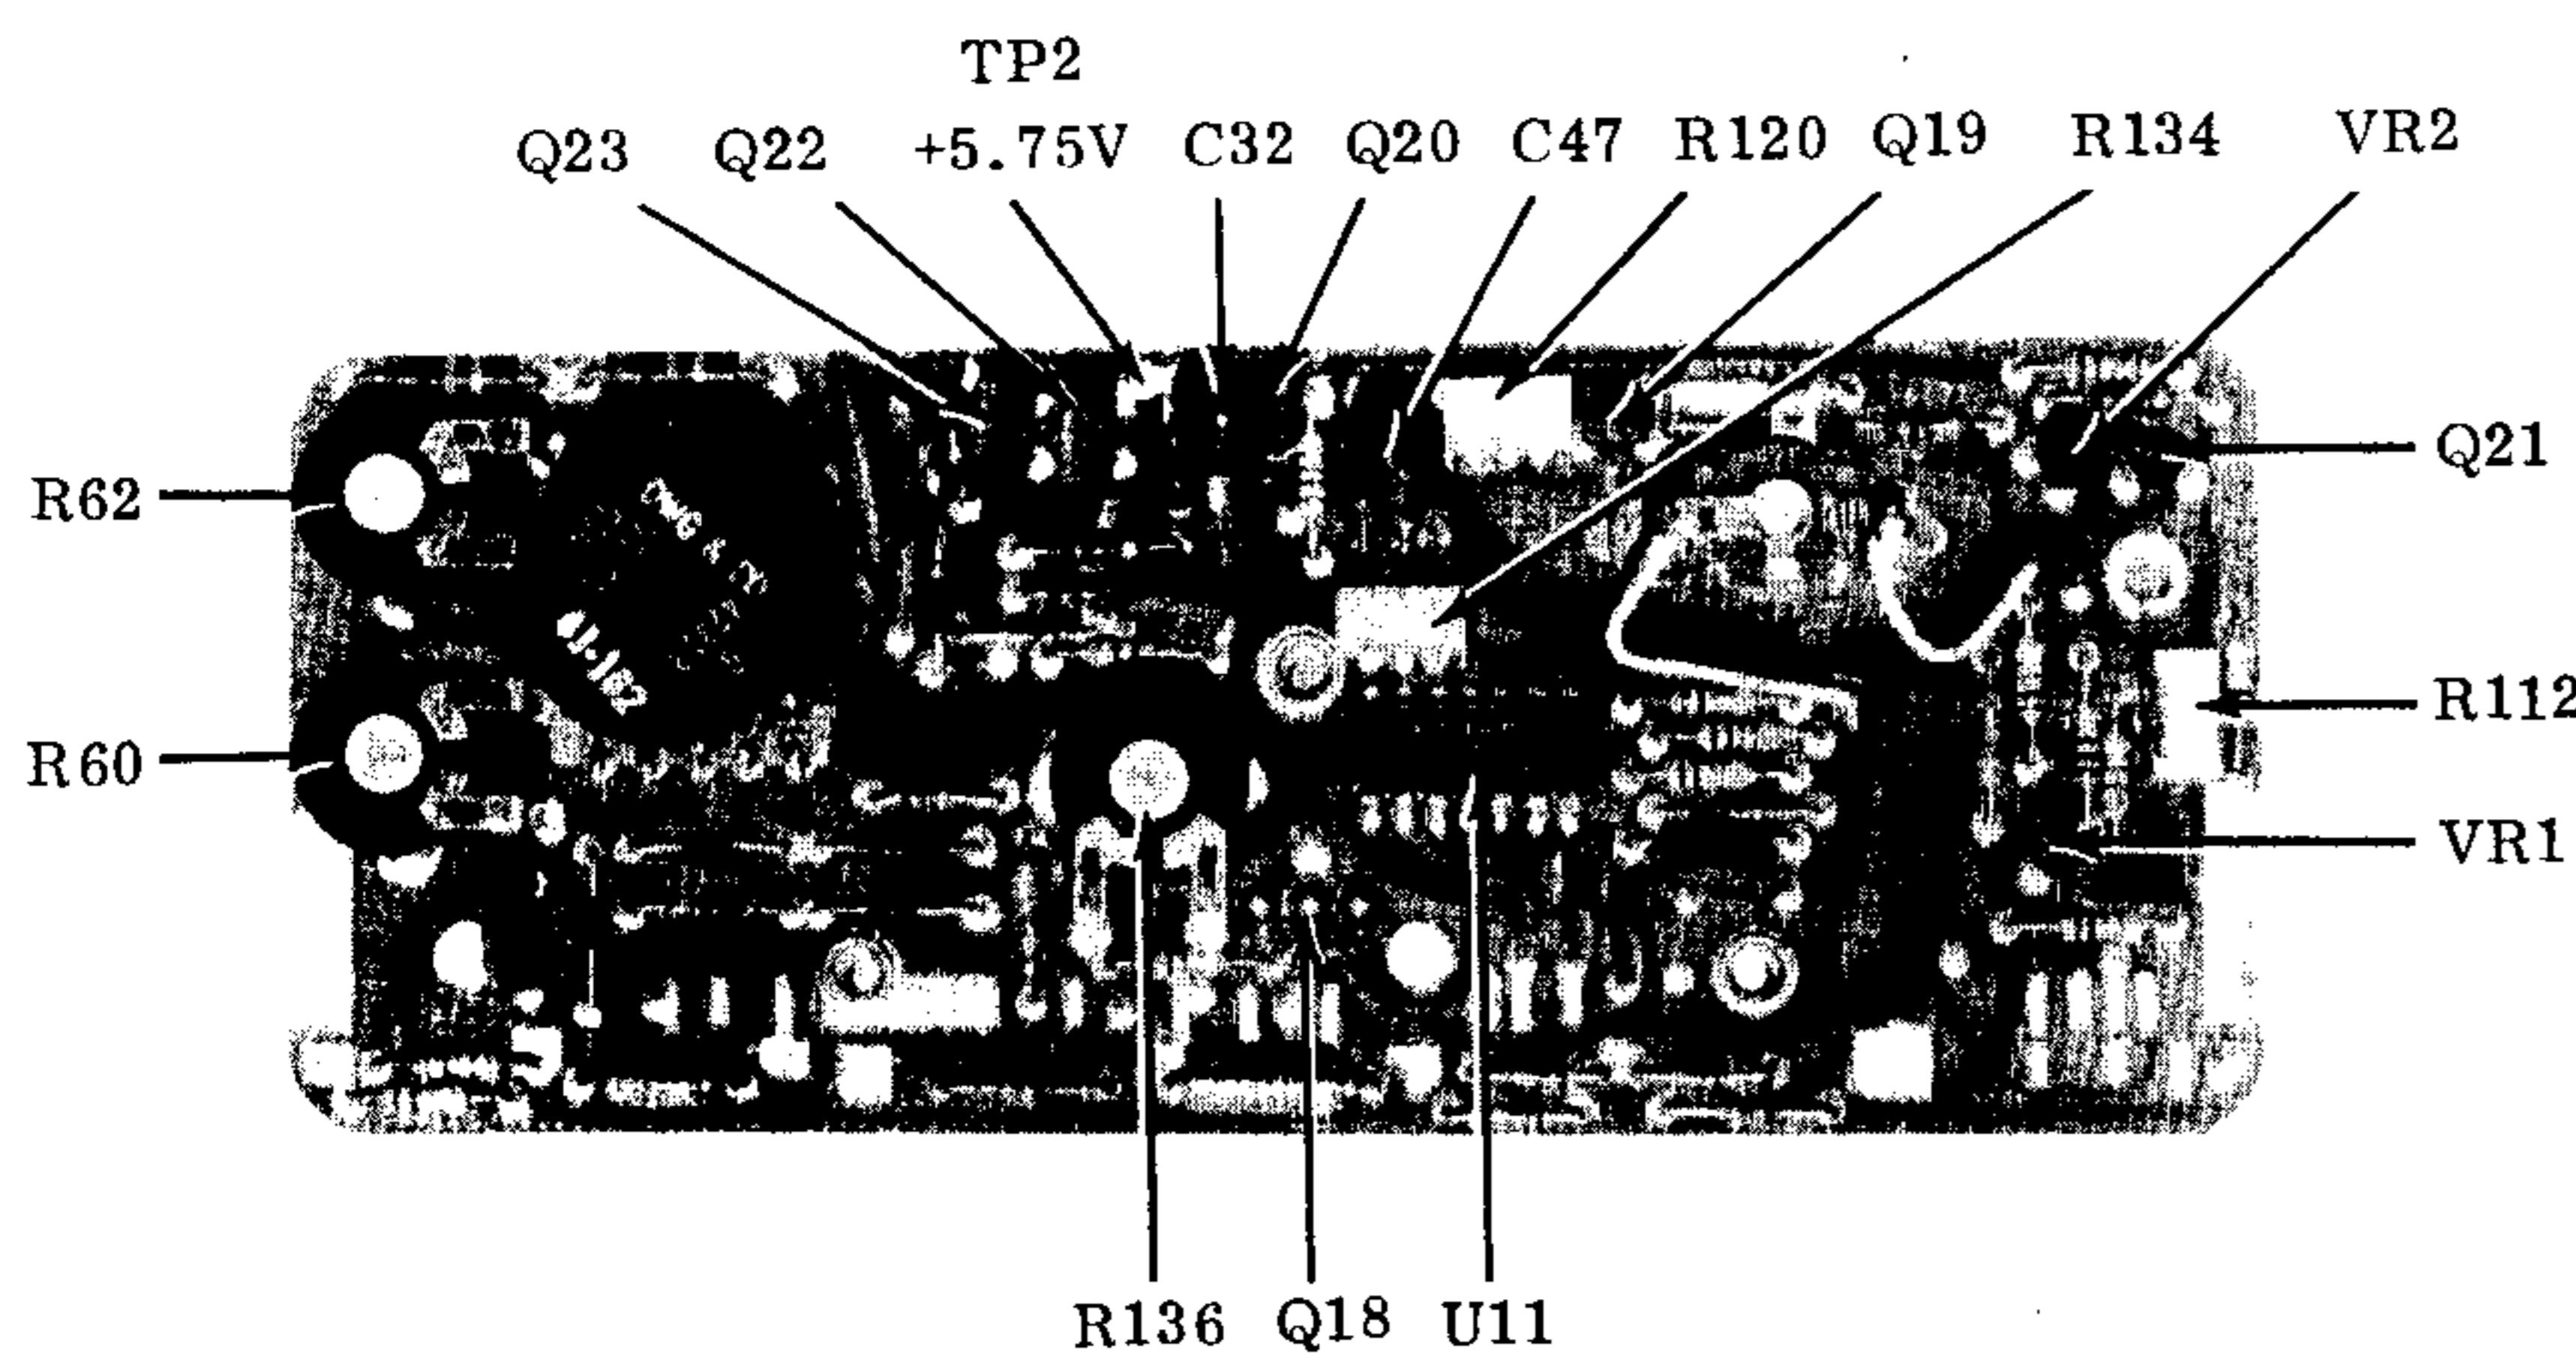

Figure 4-1. Component Location - Rear Board
3-4. Besides internal triggering, the scope can also be triggered from an external signal, the power line, or the horizontal sweep will free run if there is no triggering sources available. In following the various internal circuit descriptions below, refer to figure 3-1 - see also figures 4-1 and 4-2 for component location.
- b. Using another oscilloscope with vertical deflection calibrated to 1% or better, connect its ground to MS-215 ground and its input to upper fuse terminal. Also connect a $2\text{ k}\Omega$ resistor from upper fuse terminal to ground. Adjust R112 (figure 4-1) until peak-to-peak voltage measures 7.2 VDC.
- d. Check to see that red power indicator LED on front panel is illuminated. If not, adjust R120 (figure 4-1) CCW and turn PWR switch off and then on again.
- e. Connect an LM-3.5A between TP2 (figure 4-1) and ground.
- f. Adjust R120 (figure 4-1) until multimeter reads +5.75 VDC.